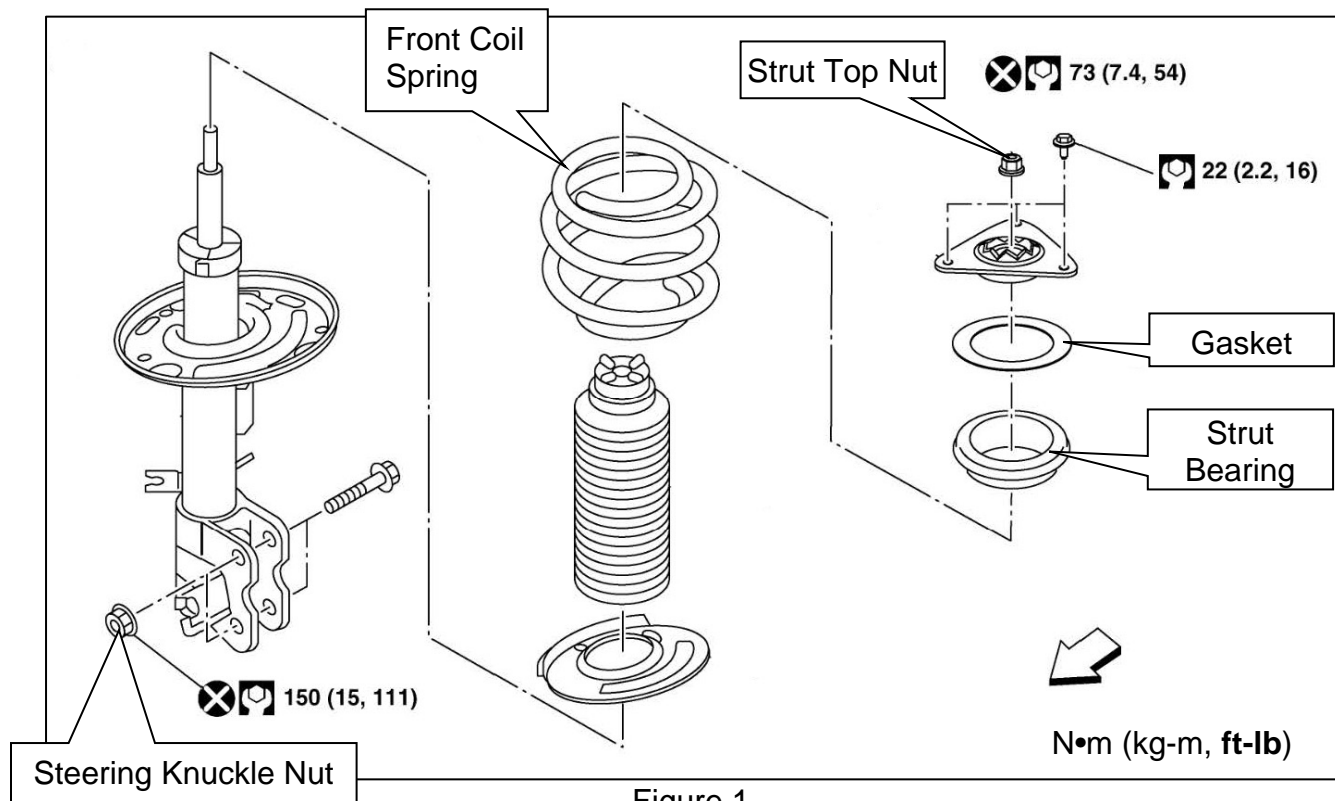

Figure 1
- For an effective repair, all parts called out in Figure 1 must be replaced. These parts are also listed in the **PARTS INFORMATION** on page 7.
HINT: The Stabilizer Connecting Rod Nut, not shown in Figure 1, will also need to be replaced.